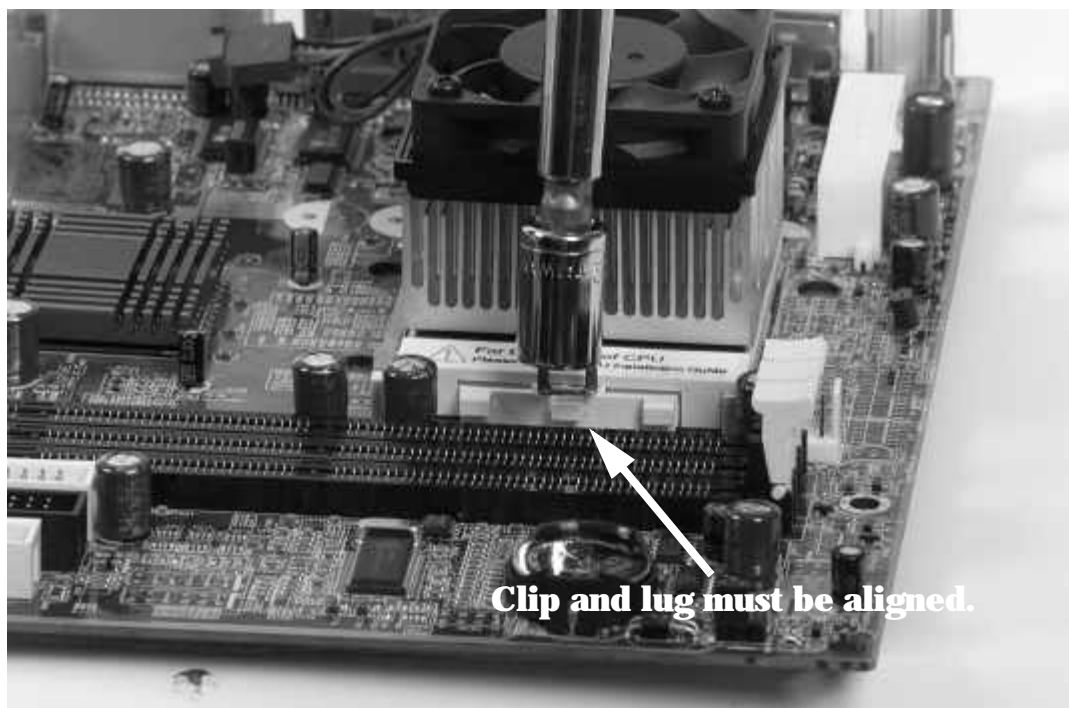

Figure 19. Make Sure that the Clip is Aligned With the Lug
19. No matter which tool is used, the clip must be aligned with the center socket lugs for the clip to fit. Figure 19 shows the clip aligned with the lug. This alignment is essential for the clip to lock. Otherwise, the clip may only be held in place by one side of the lug and the clip will eventually come loose.